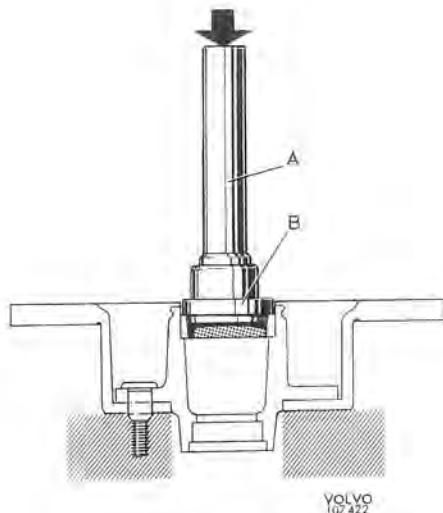
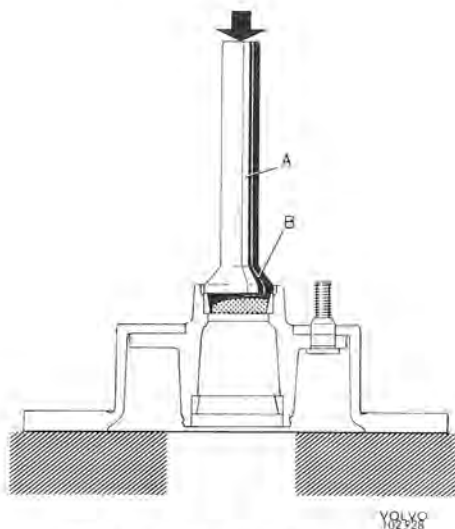

Fig. 7-23. Installing inner bearing ring
Fig. 7-24. Installing outer bearing ring
7. Press in the new bearing rings. In addition to using standard handle 1801, use drift 5005 (Fig. 7-23) for the inner ring, and drift 2724 (Fig. 7-24) for the outer bearing ring.